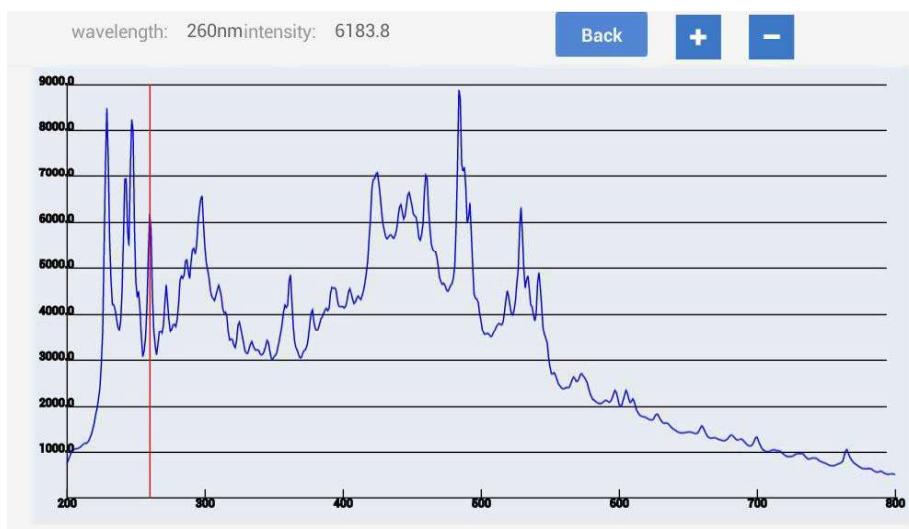

Fig 4.21 Blank light intensity
① Click **Blank** to make blank and then **Blank data** is available, click it to enter the interface Fig 4.21. It shows the 200-800 wavelength light intensity of blank sample, move the red line to view the light intensity of different wavelength. Click **+** or **-** is also can change the wavelength while the red line don't move.